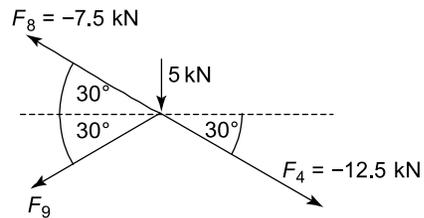

Figure 6.39
Consider joint (5); see Figure 6.39.